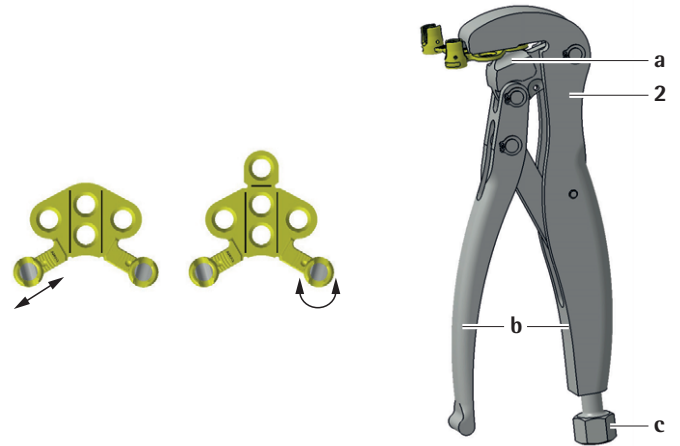

Fig. 1
- ▶ Contour the plate within the laser marked lines using the occipital plate bender 2 (FW090R), see Fig. 1.